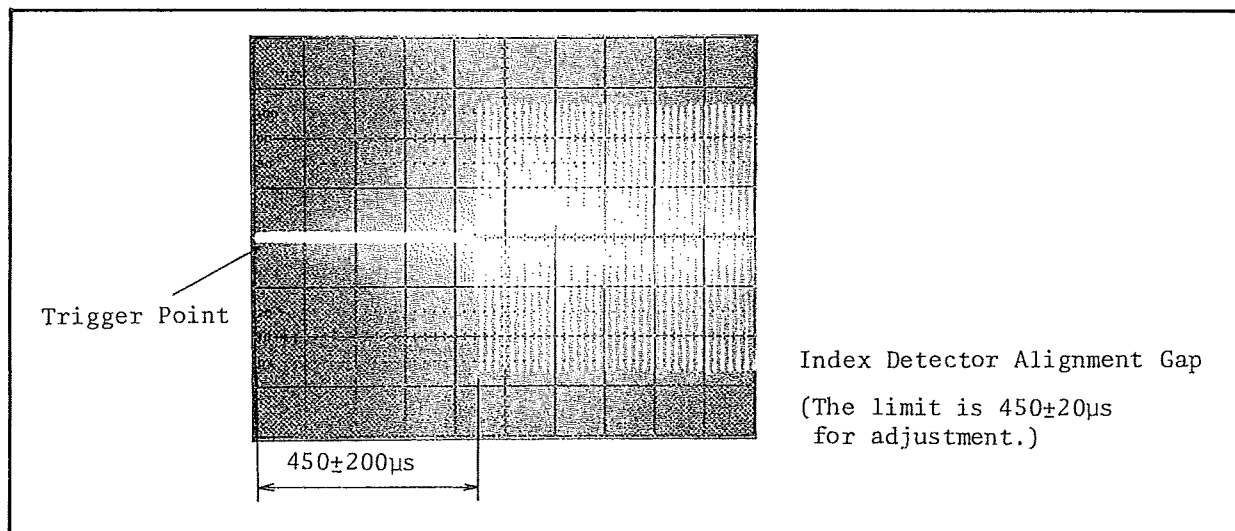

Figure 5-39. Index Detector Alignment Gap.
6. Check whether the index alignment gap is within the $450 \pm 200 \mu$ s limit. Refer to Figure 5-39 for a pictorial explanation of the gap. If the gap is out of the limit, perform steps 7 through 9.
8. Adjust the holder position using the eccentric rod (included in FDD Service Kit) until the time delay from the trigger point to the start point of a data burst is within $450 \pm 20 \mu$ s (see Figure 5-39).